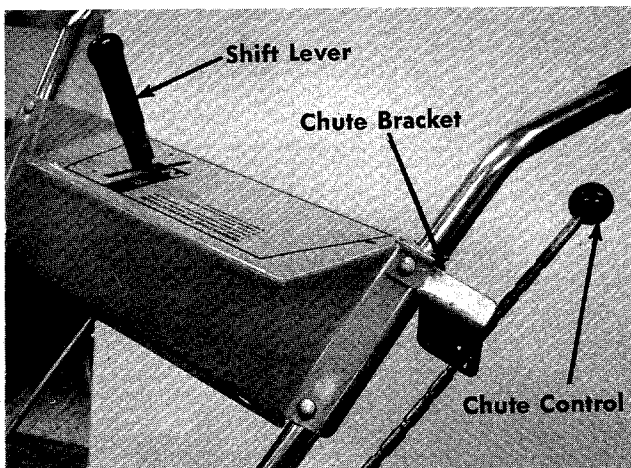

FIGURE 2.
To stop the snow thrower move the shift lever into neutral (N). Move this control only when the engine is operating. (See figure 2.)
**Chute Controls.** Raise the chute control knob and push or pull to rotate the chute. Loosen the wing nut to adjust the deflector. (See figure 2.)